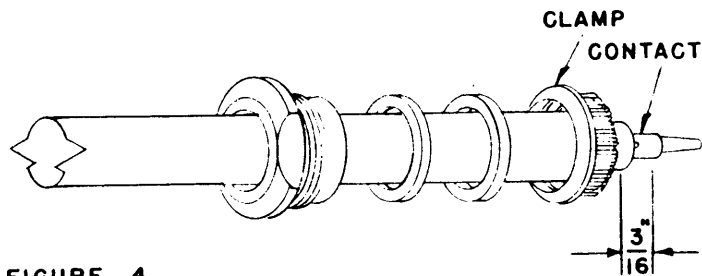

FIGURE 4
5. Slide BRAID CLAMP forward until it is flush with end of outer jacket. Bend braid back smoothly over BRAID CLAMP. Trim off excess braid. See Figure 4.